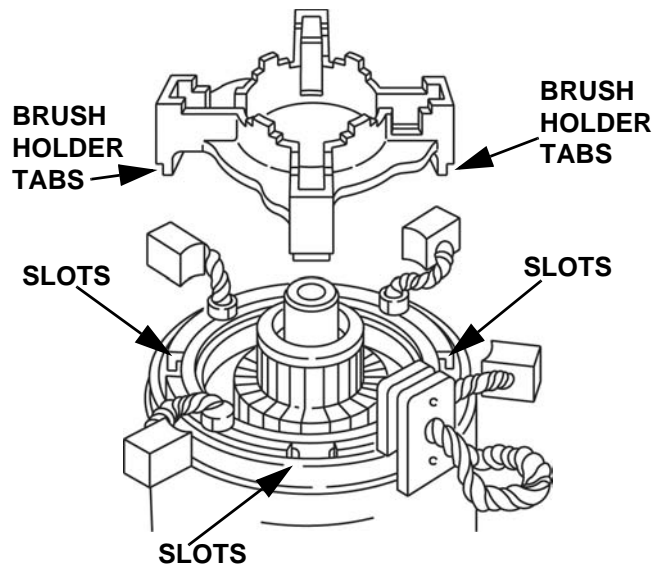

Fig. 116
4. Install brush holder, inserting tabs on brush holder into slots in starter housing, Fig. 116.